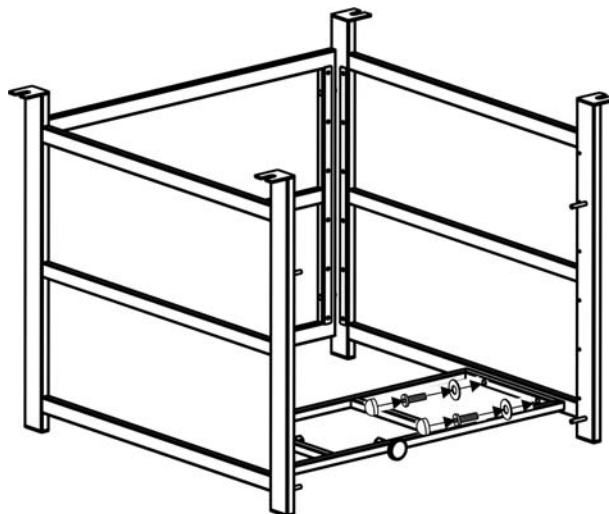

Figure 3
3. Attach the middle support to side panels by using four 1/4"x30 mm bolts and Ø6.5X1.0 mm washers as shown in Figure 3. Guide bolts through holes in the middle support, into pre-drilled holes in the side panels. **Hand tighten only.**